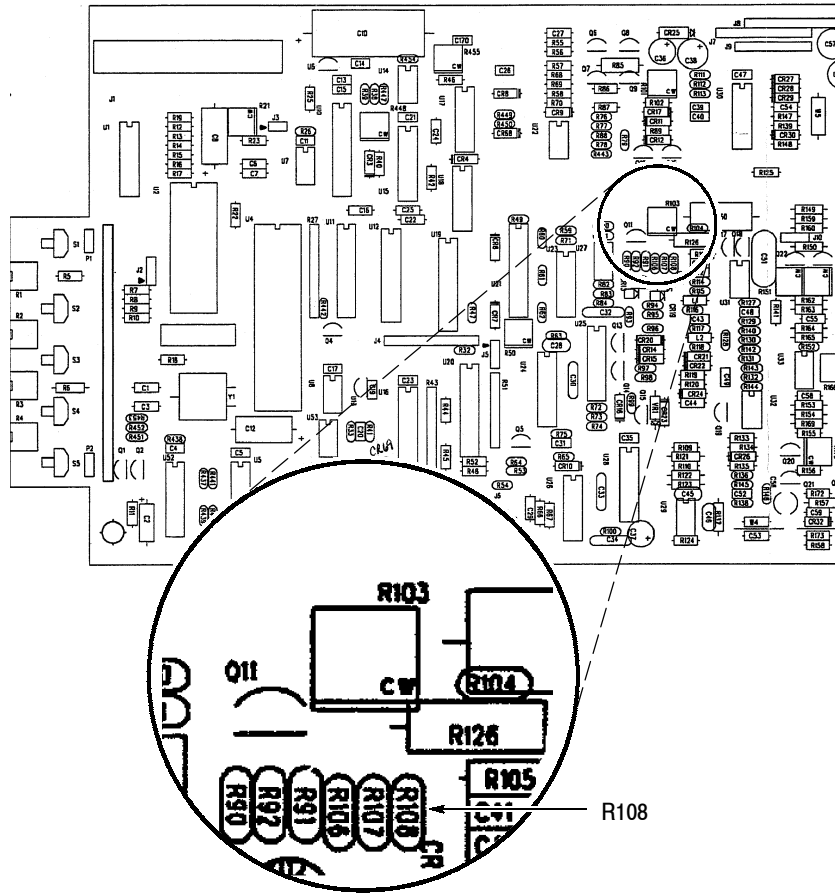

Figure 2: Partial Main Circuit Board Showing R108
8. Verify that R108 is 7.5 k ohm. If necessary, replace R108 with the 7.5 k ohm resistor provided in the kit. Refer to Figure 2 for location.